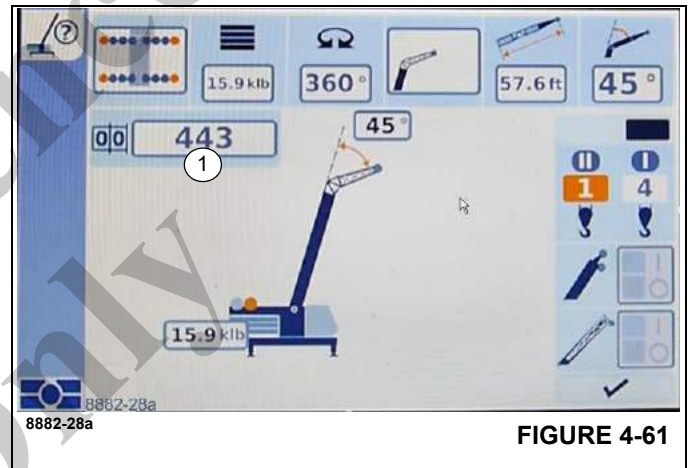

FIGURE 4-61
- Select the symbol (1), (Figure 4-61).